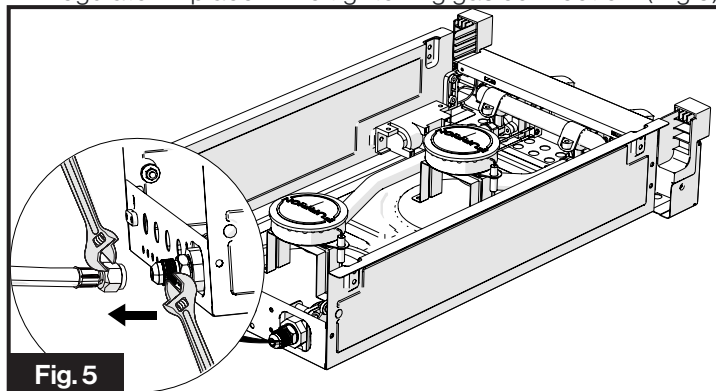

Fig. 5
1. Connect a certified gas supply line with a 3/8" Flare Female connection to the cooktop. Tighten according to appropriate RV and gas codes using two wrenches. Hold regulator in place while tightening gas connection. (Fig 5)